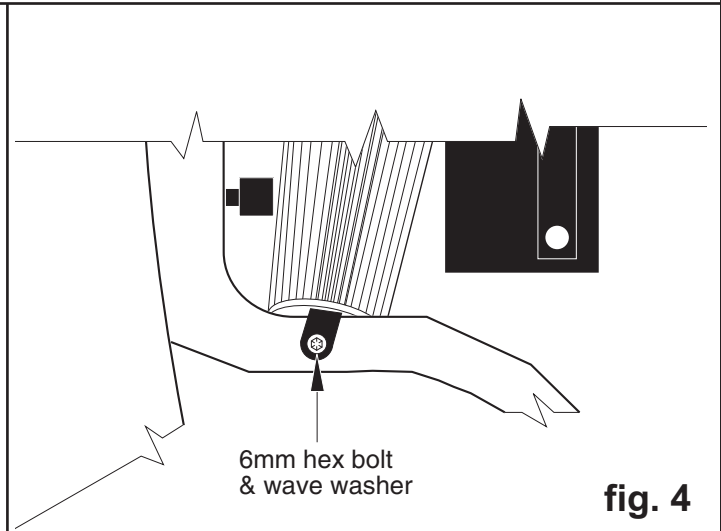

fig. 4
- 7) The "L" bracket will line-up with an existing bolt in the front grill area. Replace the bolt with the supplied hardware. Position the filter for best clearance and tighten the hardware on the "L" bracket. (see fig. 4)